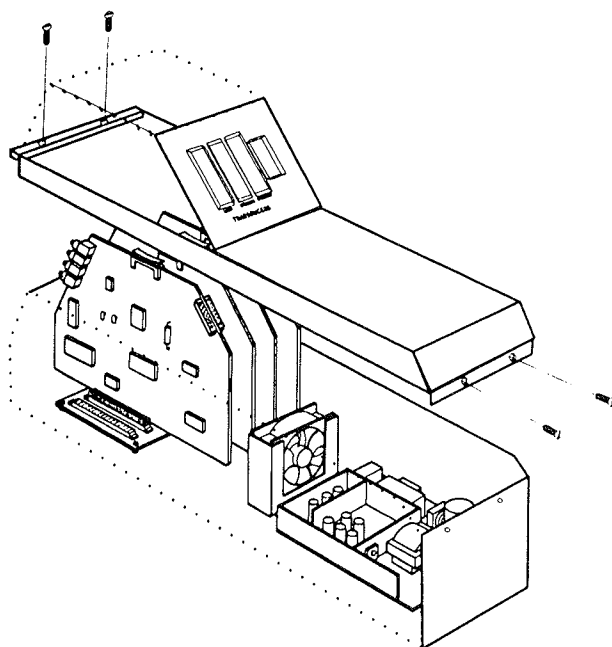

Figure 7-4. Removing the Frame Control Unit Cover
- (b) Use the 4 mm hex key to remove the four screws at the front and rear edge of the frame control unit cover. Refer to Figure 7-4.